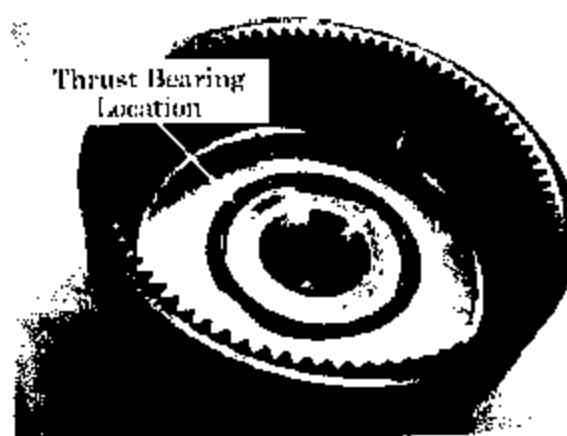

Figure 9
20. Remove the overdrive internal gear and thrust bearing (*see figure 9*).
49. Reinstall the overdrive internal gear and thrust bearing. DEXRON®-III with a G-License Number (G-XXXX) (refer to bulletin IB03-05-S001 4L30E/4L60E Transmission Fluid) (see figure 9).